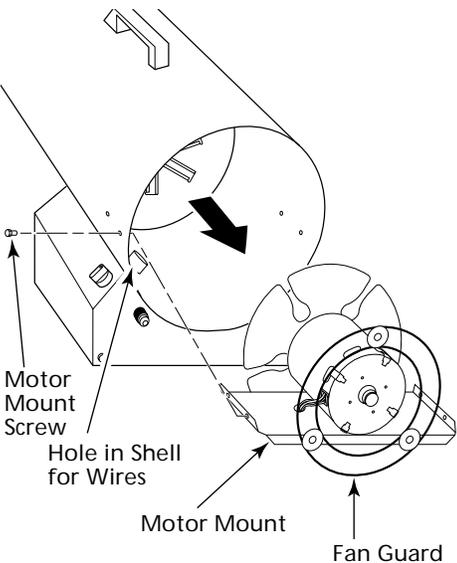

Figure 7 - Removing Motor, Motor Mount, and Fan Guard from Heater
5. Remove screws holding motor mount to shell. Use nut-driver (See Figure 7, page 8).